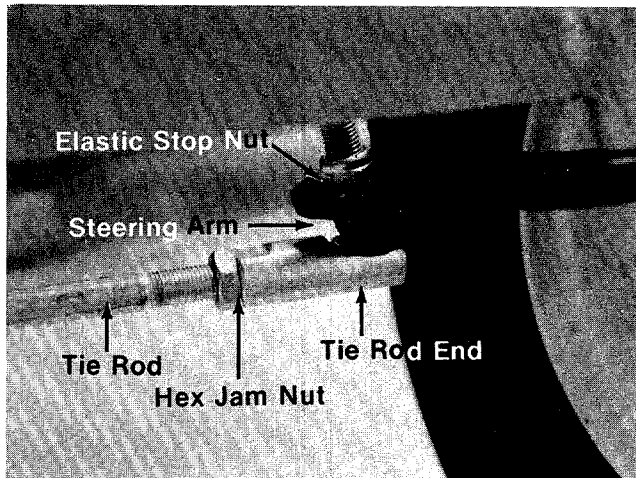

FIGURE 23.
1. Remove the elastic lock nut and drop the tie rod end from the wheel bracket. See figure 23.